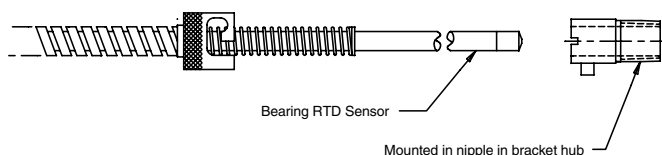

Figure 6-10
6. Remove ODE bearing RTD by twisting the bayonet connector counterclockwise at the front bracket where it protrudes through a short nipple. Pull the RTD out of the bracket and retain it within the conduit box. Protect the RTD and wiring from damage while continuing. (Figure 6-10 and 6-11)